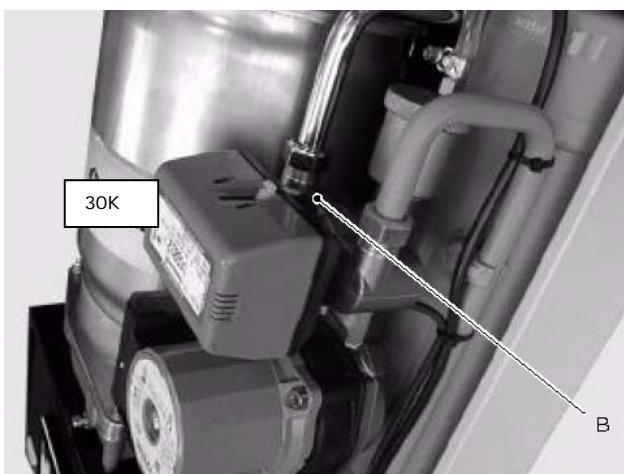

Fig. 24
- 3 Press the push-button B placed in the rear side of the motor body (Fig. 24) and rotate the motor anti-clockwise, releasing it from the hydraulic group.